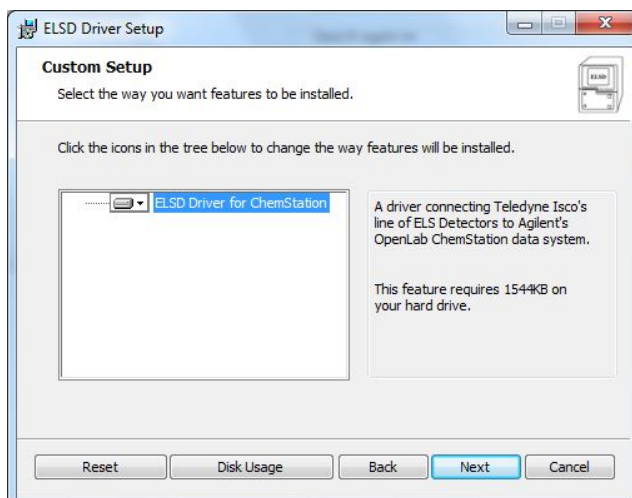

Figure 3: Installation parameters
4. Use the **Next** button to accept the installation parameter settings. The default settings should be used (Figure 3).